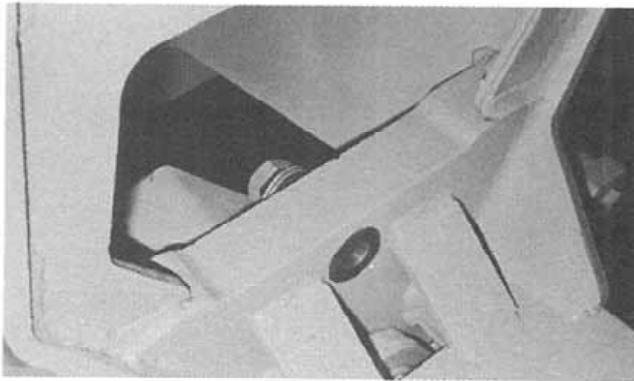

Figure 1:
4. Remove the tailpiece from the transfer case (Fig. 1).